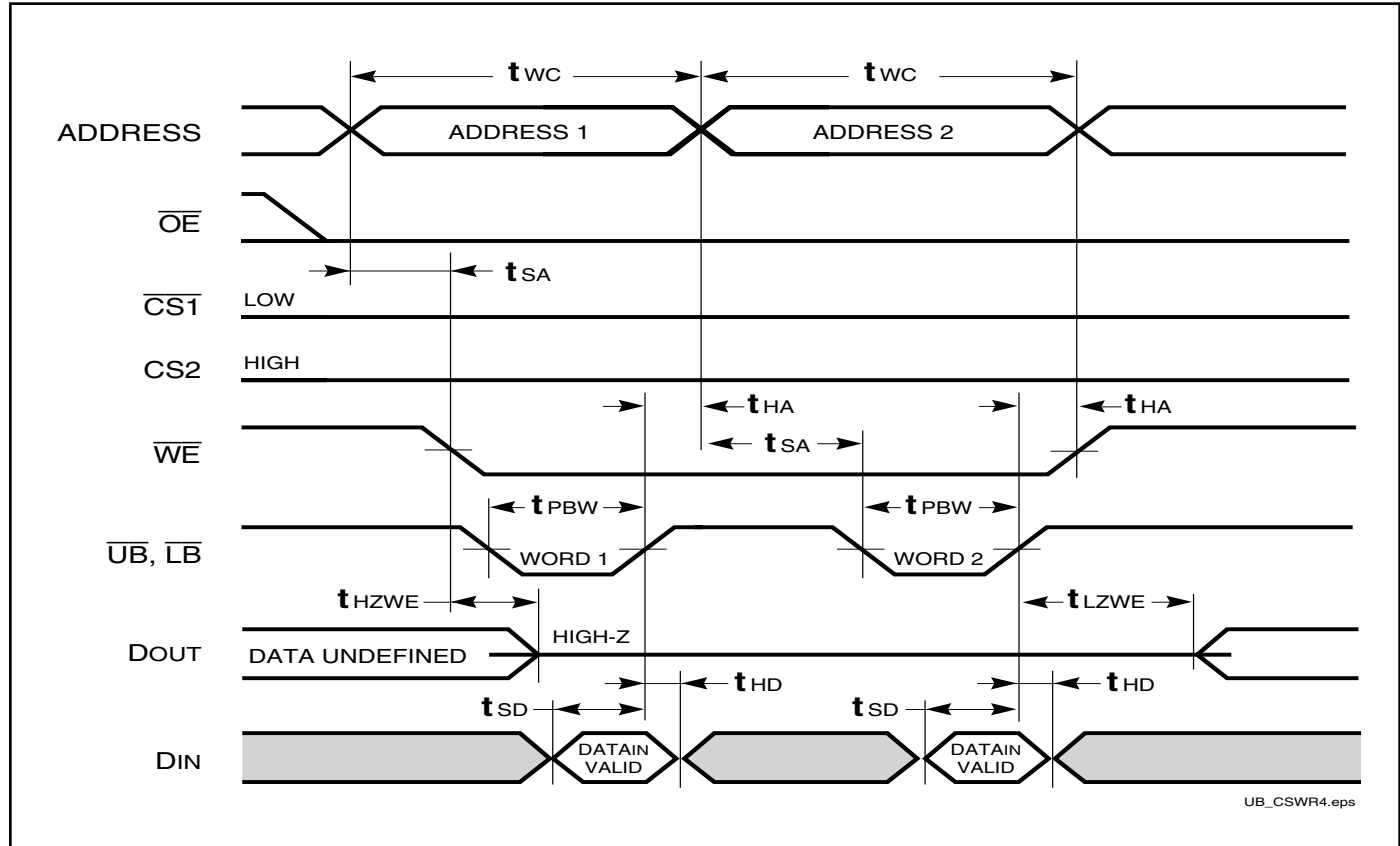
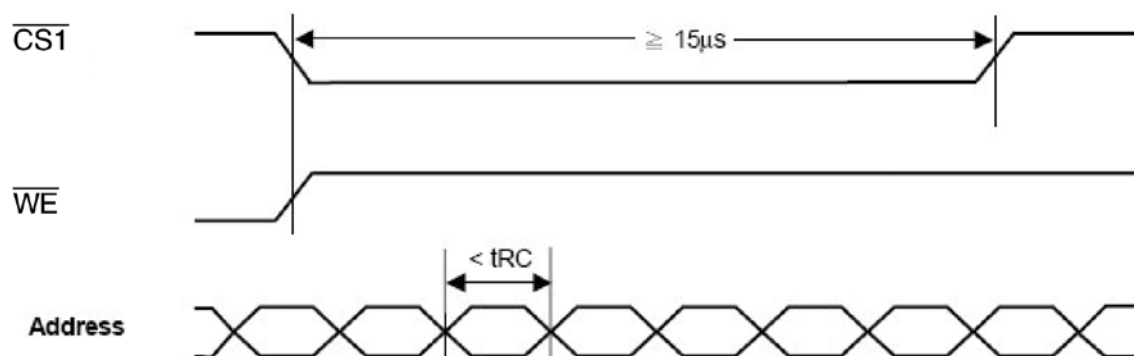

Figure 1: Avoidable Timing
Figure 2:
1. Test conditions assume signal transition times of 5 ns or less, timing reference levels of 0.9V/1.5V, input pulse levels of 0.4 to V_{DD}-0.2V/0.4V to V_{DD}-0.3V and output loading specified in Figure 1.
3. Tested with the load in Figure 2. Transition is measured ± 100 mV from steady-state voltage. Not 100% tested.
Please avoid address change for less than t_{RC} during the cycle time longer than $15\mu s$ (Figure 1). Figure 2 & 3 provide work around solution for this issue.